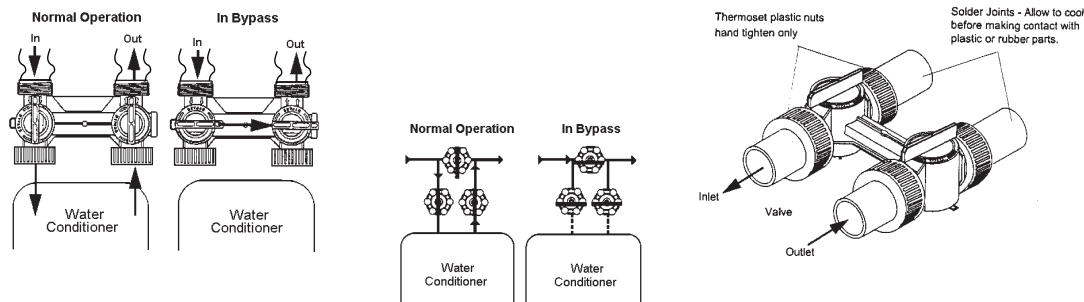

Figure 3
- Step 13) Partially open **INLET** knob on bypass valve (Figure 3). This will allow the unit to fill slowly from the bottom up, reducing air entrapment. Allow unit to fill slowly, failure to do so could result in loss of resin to the drain. Once a steady stream of water, no air, is flowing to drain the inlet and outlet knobs on the bypass can be fully opened (refer to Figure 3).